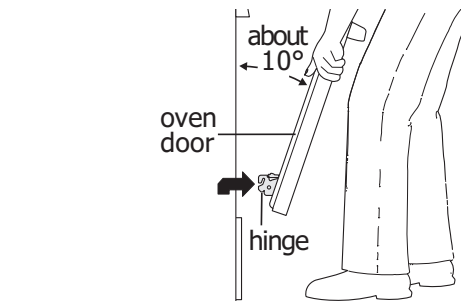
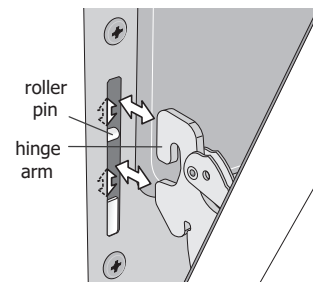

Figure 18: Holding door for removal
Figure 19: Replacement and location of hinge arm and roller pin
3. Firmly grasp both sides of oven door along the door sides. Do not use the oven door handle (See Figure 18).
4. Close the door to approximately 10 degrees from the door frame (See Figure 18).
5. Lift the oven door hinge arms over the roller pins located on each side of the oven frame (See Figure 19).
1. Firmly grasp both sides of oven door along the door sides. Do not use the oven door handle (See Figure 18).
2. Holding the oven door at the same angle as the removal position, seat the hook of the hinge arm over the roller pins located on each side of the oven door frame (See Figure 18 and Figure 19). The hook of the hinge arms must be fully seated onto the roller pins.
The interior oven light is located at the rear of the oven cavity (Figure 18).